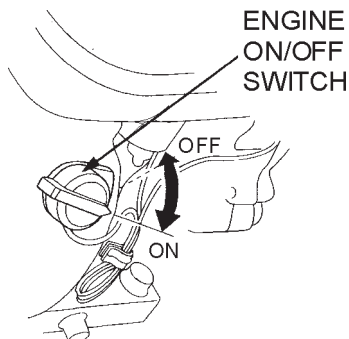

Figure 10. Engine ON/Off Switch
2. Place the **Engine ON/OFF switch** (Figure 10) in the "ON" position.